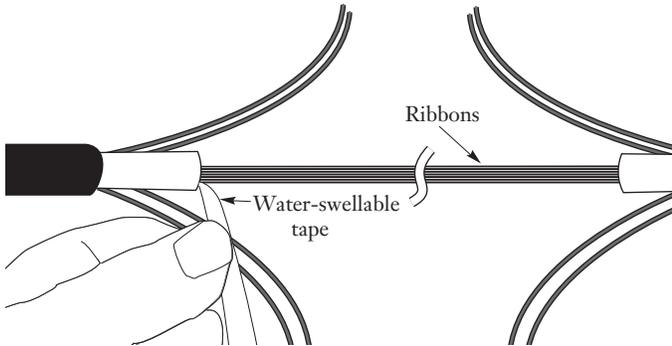

Figure 28
- b) Carefully separate the water-swollable tape from the ribbons (see Figure 28).